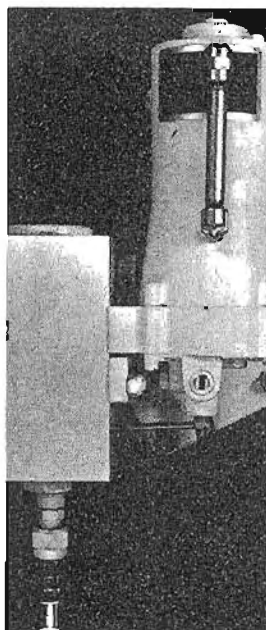

Figure 1. Low Pressure Pump
- a. Low Pressure Pump - Systems, which have a low pressure pump (Figure 1), require SAE 10W30 motor oil.